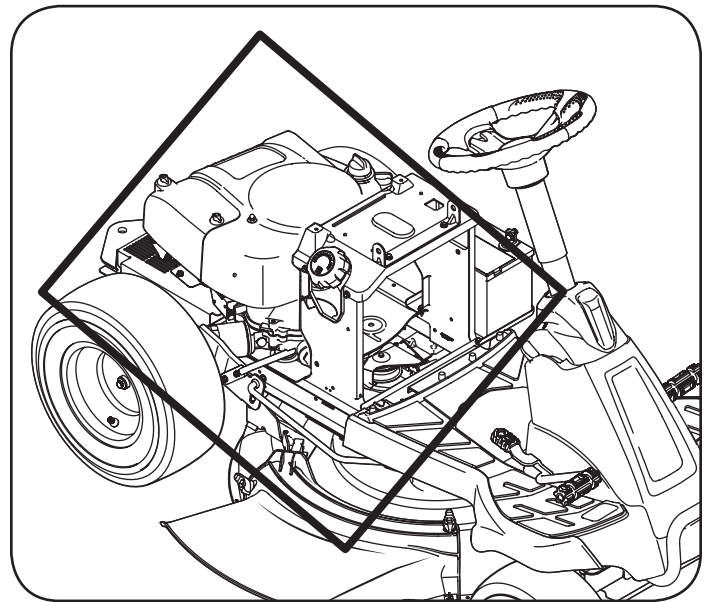

Figure 25
- Clean under the hood. Exhaust manifold, around fuses, all wiring and harnesses, muffler pipe, muffler shield, engine intake screens and cooling fins, etc. See Figure 25.